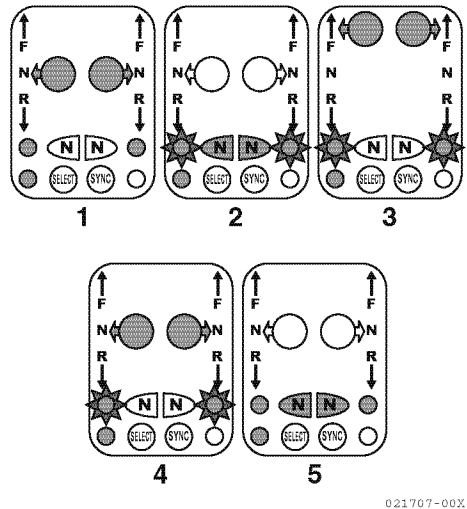

Figure 13
1. Return the handle(s) to N (neutral). The neutral light(s) glow steadily (1, **Figure 13**).
2. Press the N (neutral) button(s) (2, **Figure 13**). The neutral light(s) flash (star around light(s) in (2, **Figure 13**)).
3. Move the handle(s) to forward or reverse throttle (3, **Figure 13**) resulting in engine rpm control without engaging marine gear.
1. Return the handle(s) to N (neutral) (4, **Figure 13**).
2. Press the N (neutral) button(s) (5, **Figure 13**). The neutral light(s) glow steadily (5, **Figure 13**).